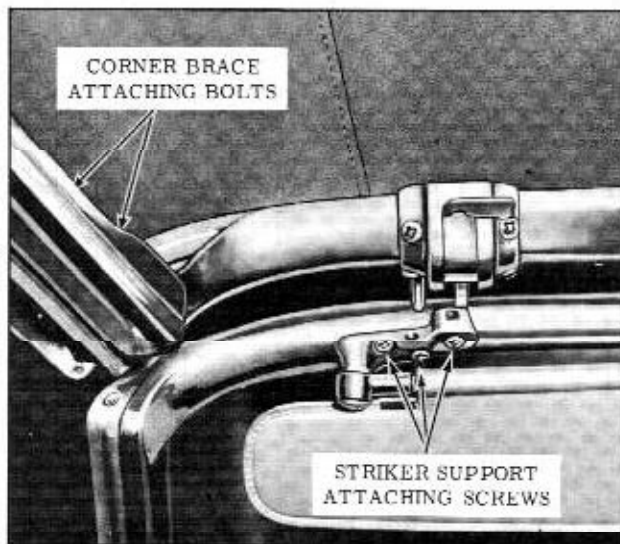

Fig. 17-116 Front Roof Rail Adjustment
2. Loosen corner brace attaching bolts (Fig. 17-116) and adjust front roof rail fore or aft as required. Repeat on opposite side if necessary.